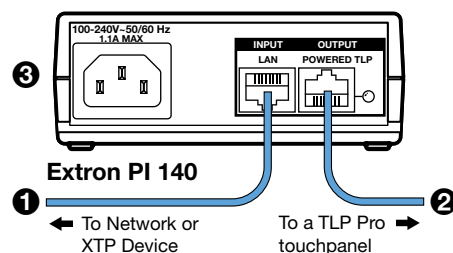

Figure 4. Connecting the Power Injector
The power injector must be purchased separately. Figure 4 shows the Extron PI 140. Your power injector may look different.
1. Connect a straight-through Ethernet cable from the power injector to a switch or router (see figure 4, ❶). This cable carries network information from the switch or router to the power supply input.